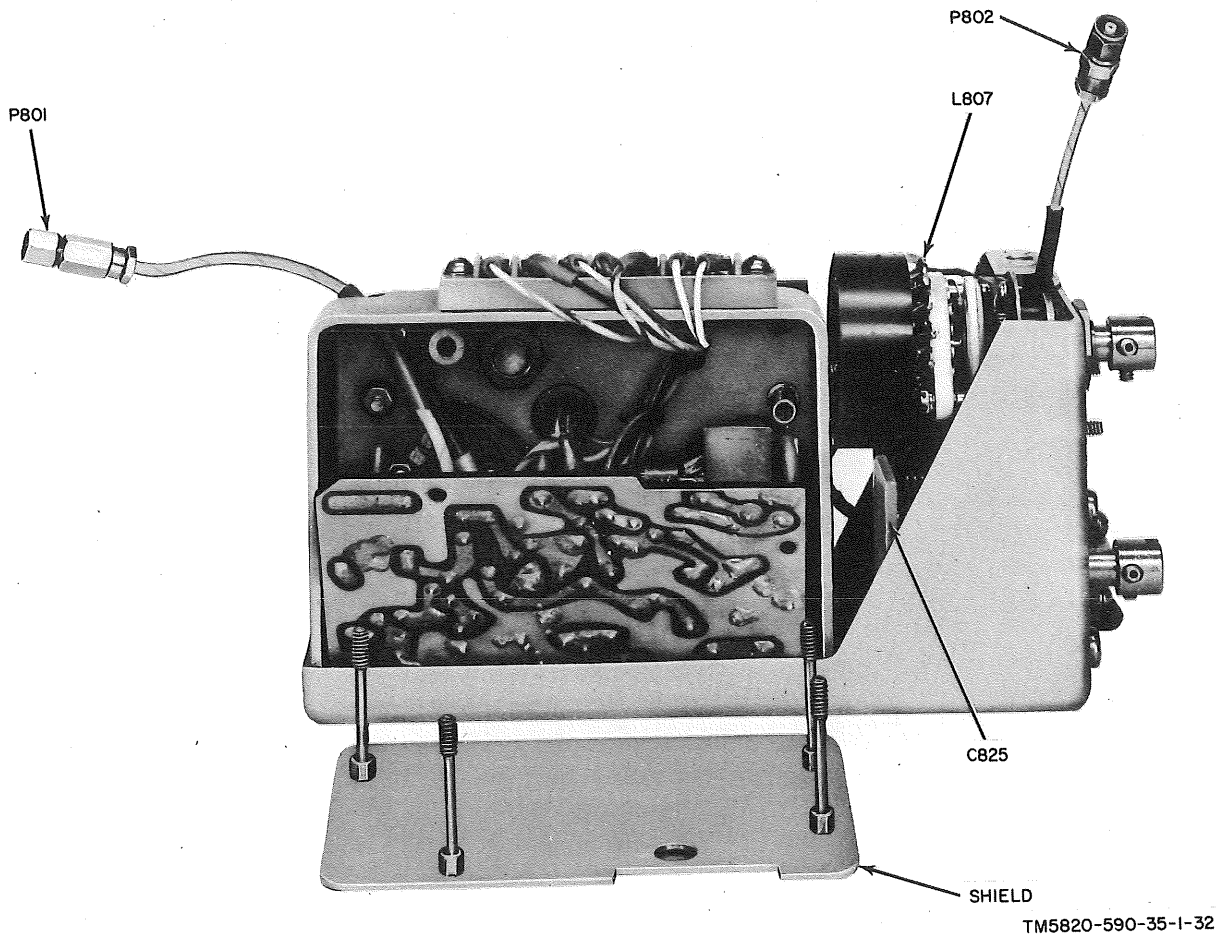

Figure 4.1-2. Power amplifier module, right side, component board removed.
h. Adjust L807 and C825 (fig. 4.1-2) for a maximum indication on multimeter No. 1.